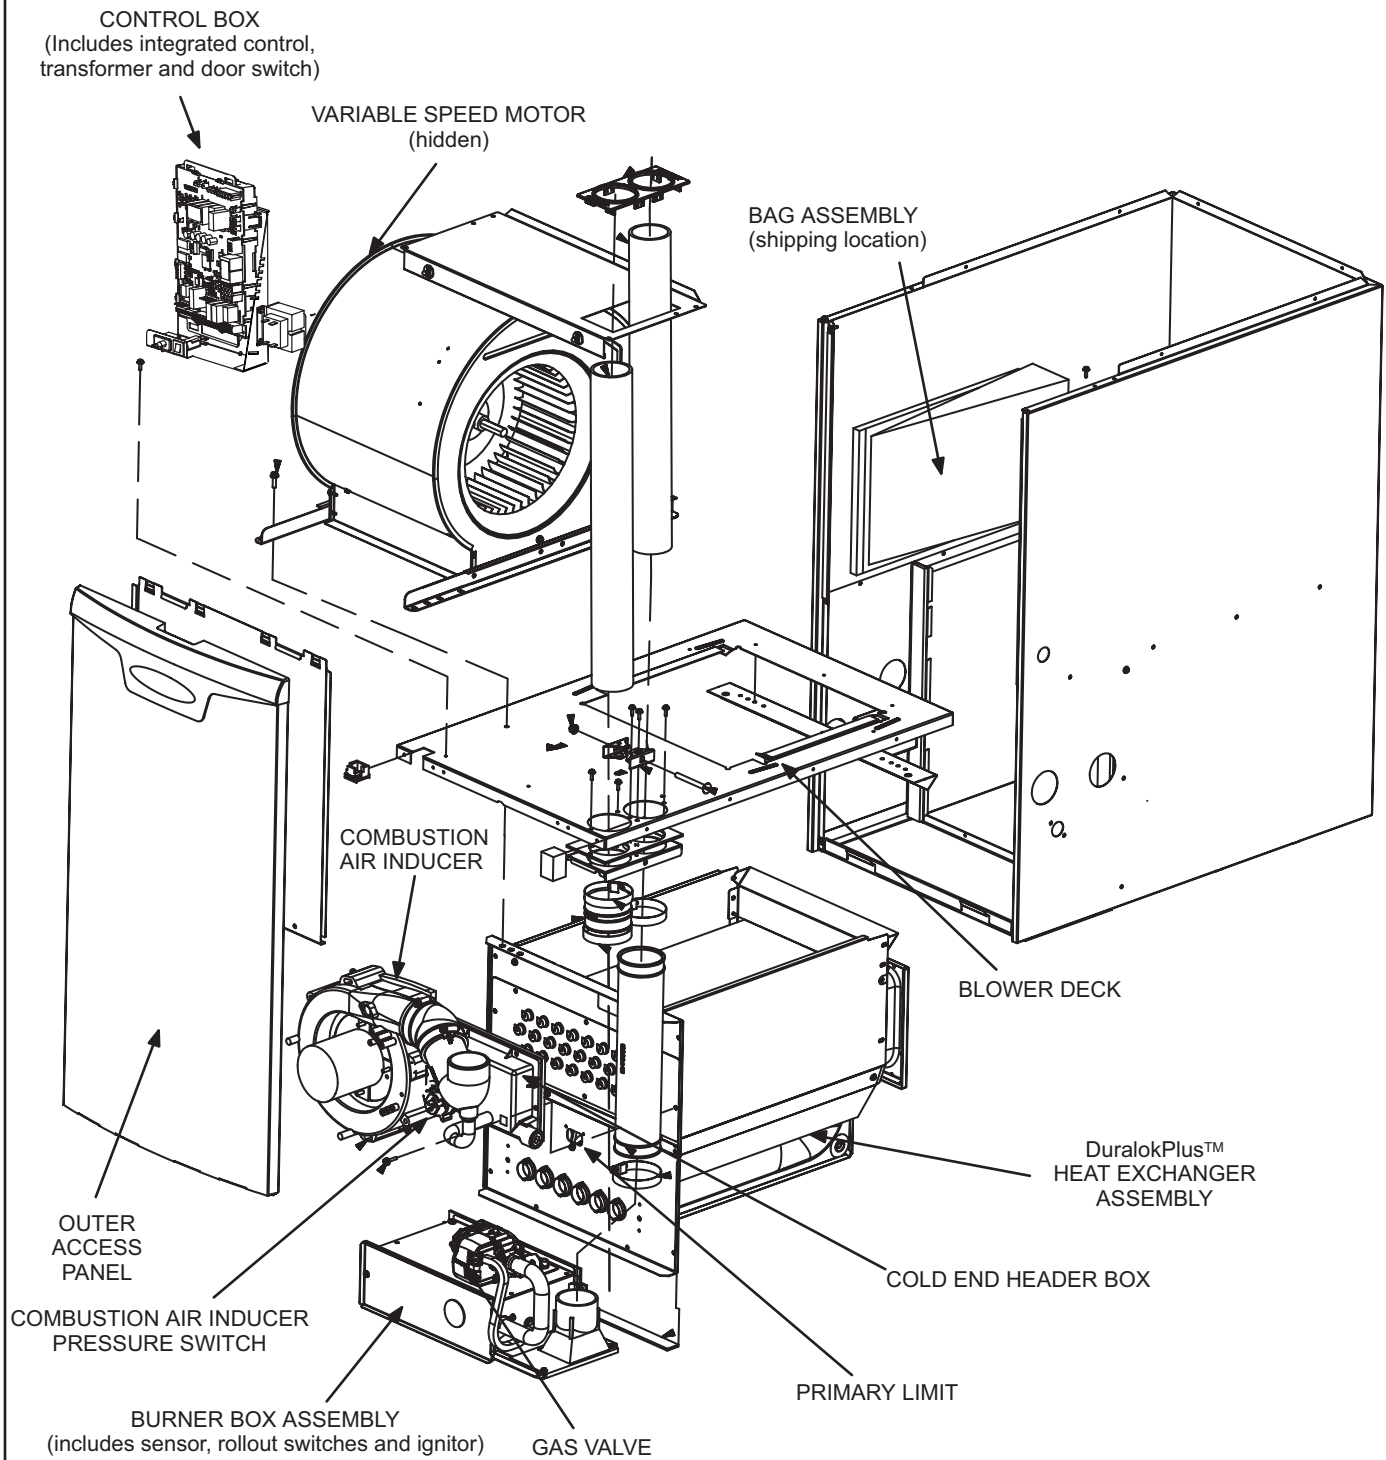
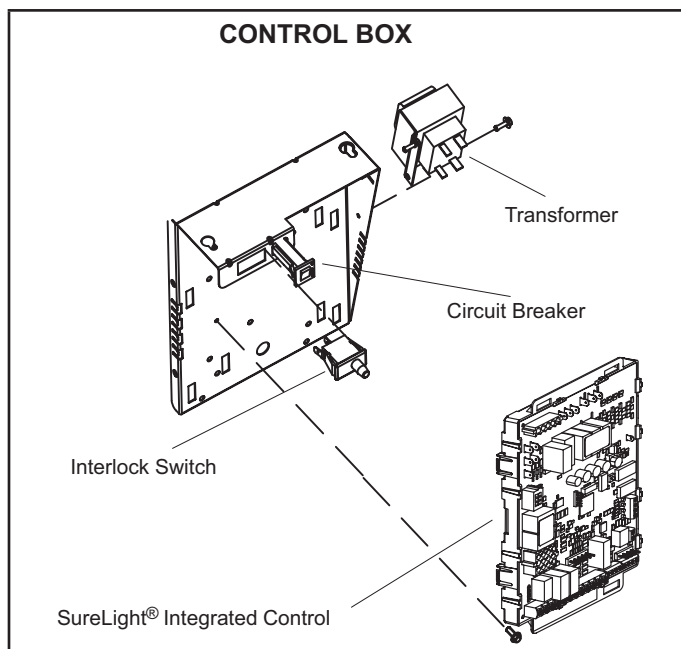

FIGURE 1
FIGURE 2
EL297DFVK(X) unit components are shown in FIGURE 1. The gas valve, combustion air inducer and burners can be accessed by removing the access panel. Electrical components are in the control box (FIGURE 2) found in the blower section.